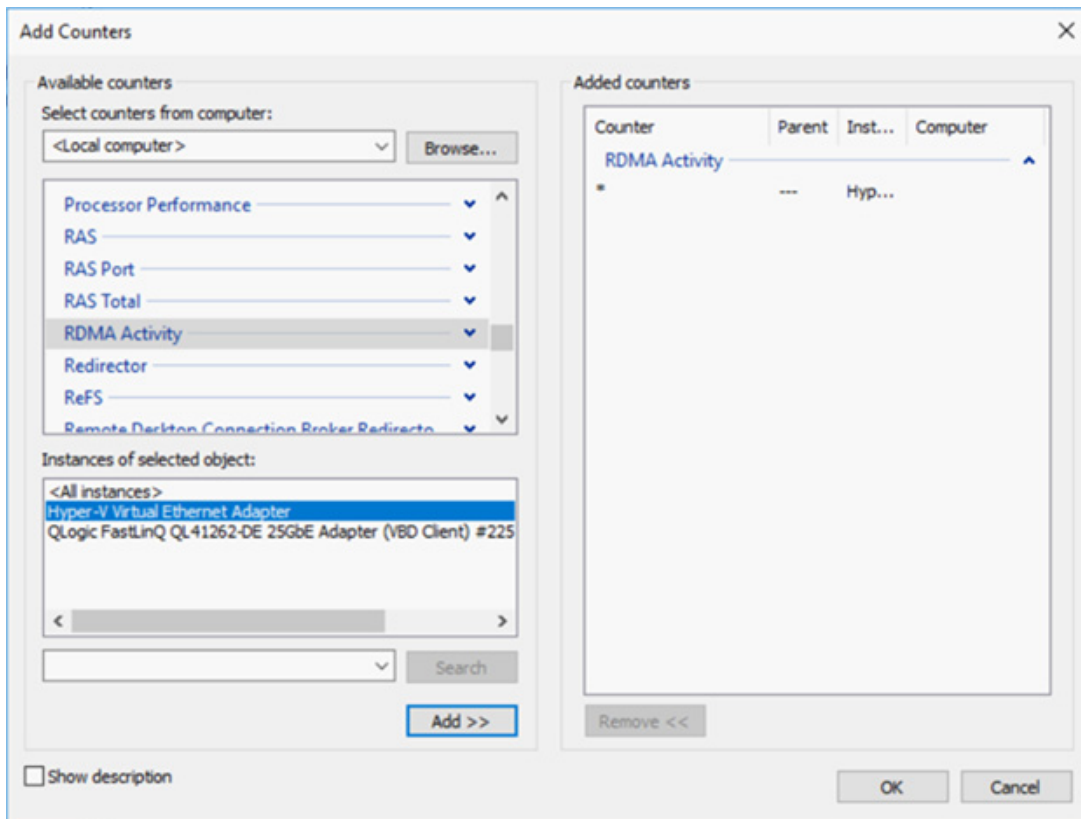

Figure 9-5. Add Counters Dialog Box
2. Complete the Add Counters dialog box (Figure 9-5) as follows: